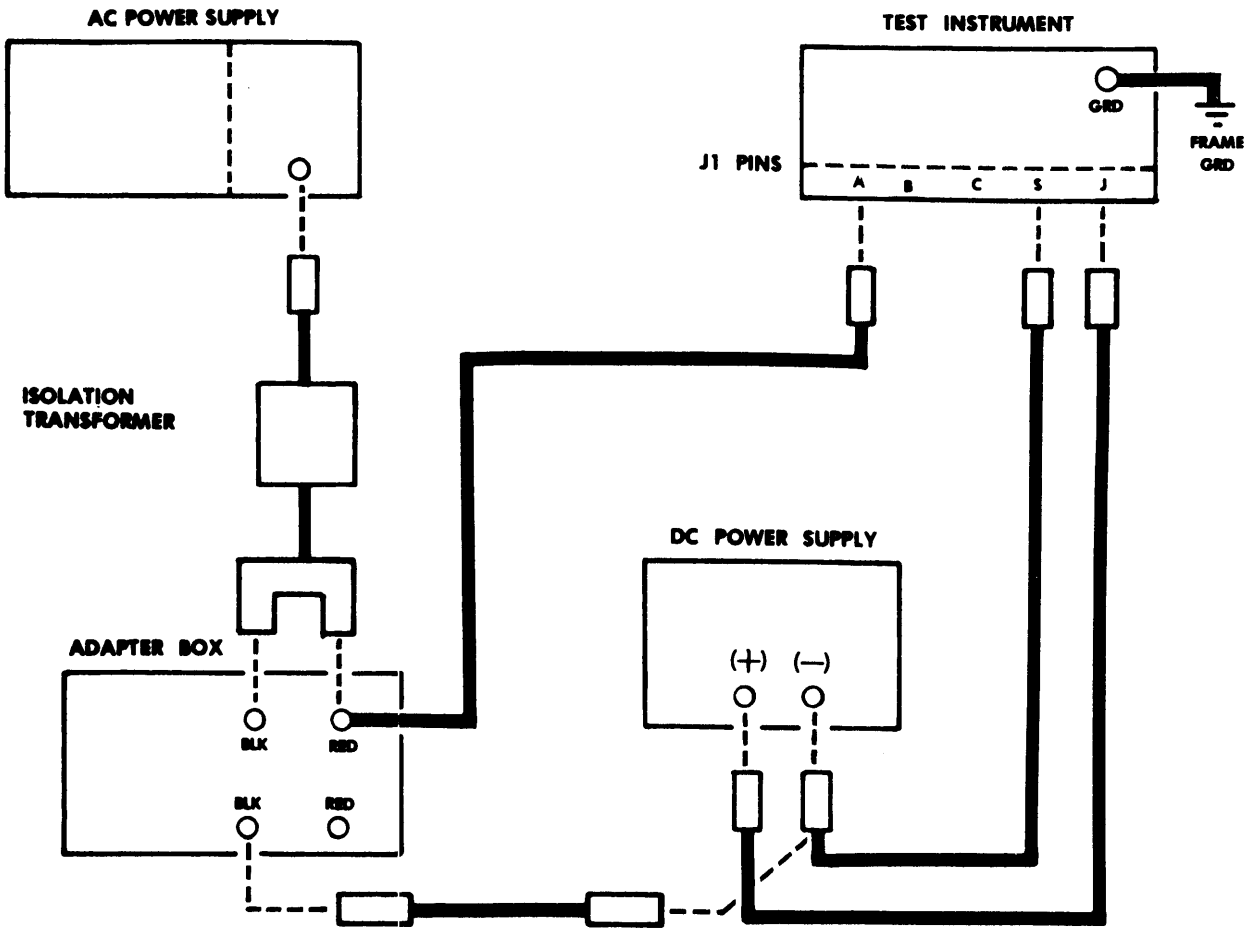

Figure 4-2. Power Source-Equipment Setup
(1) Disconnect all test equipment from test set, except DC power supply as shown in Figure 4-2.
(2) Set TRIP TIME -START switch to DOWN and TEST SELECT to AØ UV position. Jumper J1 pins, a, b, g, and set TRIP TIME-START switch to UP.
(3) TRIP-TEST IN PROG indicator and TRIP TIME-EARLY TRIP indicator will light. TRIP-TEST IN PROG indicator will go OFF and TRIP TIME-TEST COMPL indicator will light. If not, see troubleshooting Table 4-8 (Faults No. 7, 8, & 11).
(4) Remove jumper from J1 pin a and set TRIP TIME START stich to DOWN. TRIP TIME lamps will